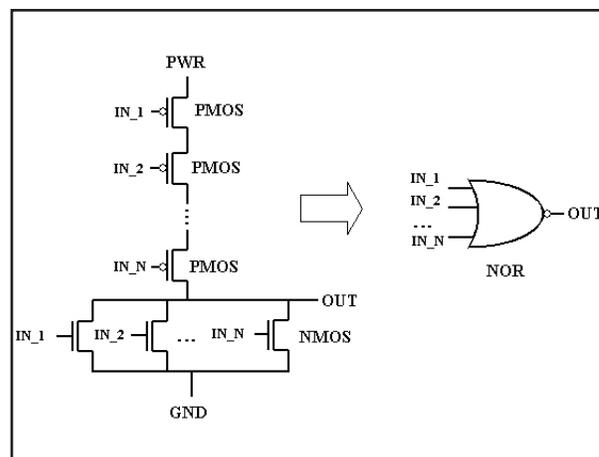

Figure 5. NOR_N
- **NOR_N** — CMOS **NOR** with N inputs (Figure 5.)